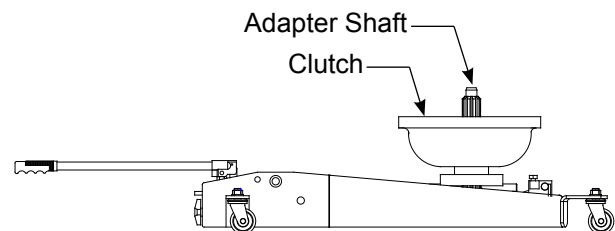

Figure 2 - Illustration of Lowest Position with Clutch
Be sure the adapter shaft is in the vertical position and the jack is fully lowered before transporting, as shown in Figure 2.
1. To load or unload a clutch from the jack, be sure the adapter shaft is in the vertical position, as shown in Figure 2.